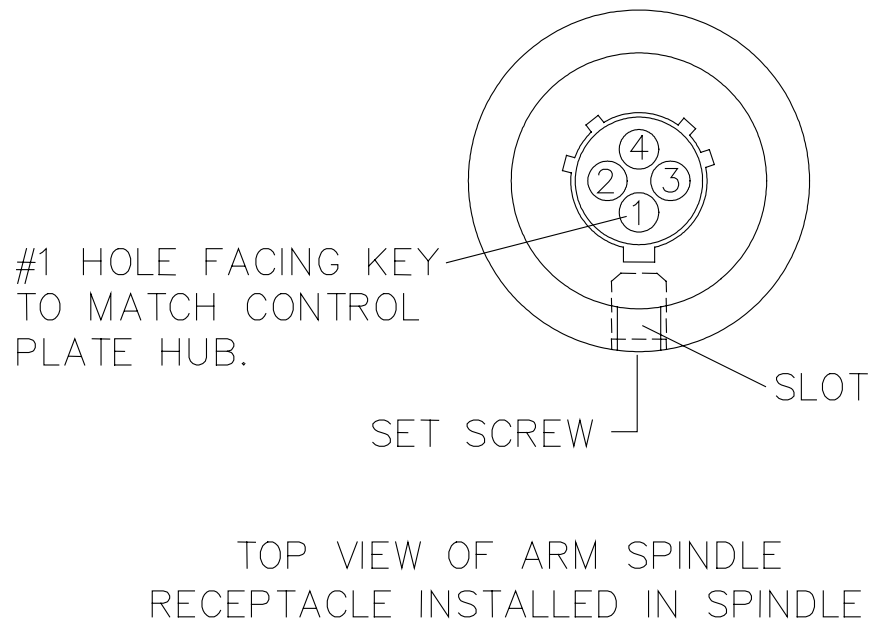

Figure 4
5. Using a SCDC control plate, connect the control plate hub to the spindle receptacle as shown in Fig. 4. Pin # 1 of the control plate hub *must* match pin #1 of the arm spindle receptacle.